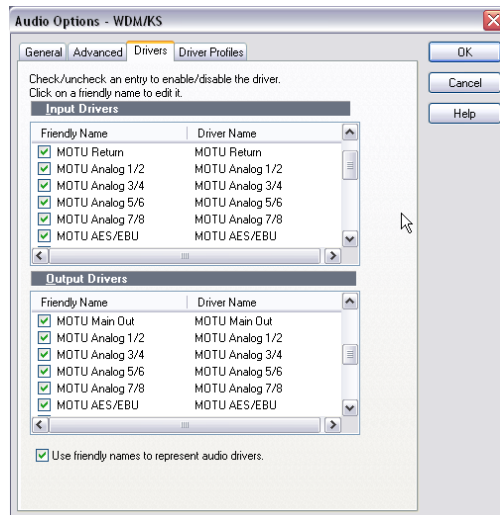

Figure 8-2: Activating the MOTU audio WDM driver in SONAR by highlighting 896mk3 inputs and outputs.
- 5 Check the 896mk3 inputs and outputs that you wish to use and uncheck the ones you don't as shown in Figure 8-2.
Once you've enabled the 896mk3 inputs and outputs in the Drivers tab of Sonar's Audio Options window (Figure 8-2 on page 59), 896mk3 audio inputs and outputs will appear in Sonar's input/output menus, and you can set them up and use them as any standard audio input and output. If you don't see the optical inputs and/or outputs, check MOTU Audio Console to make sure they are turned on and set to the format you need. If you don't plan to use the optical input or output, turn it off to conserve computer bandwidth.